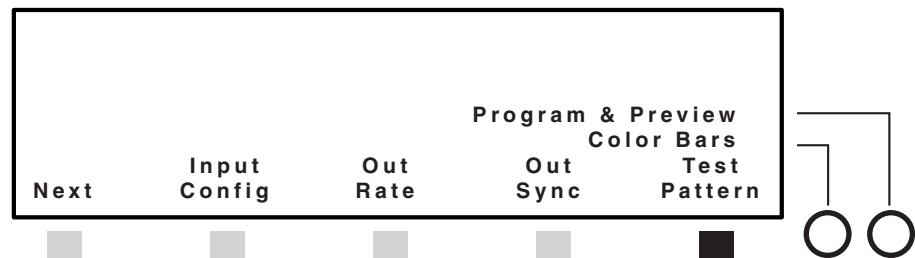

Figure 3-11 — Selecting the test pattern
2. Press the Test Pattern button (figure 3-11).